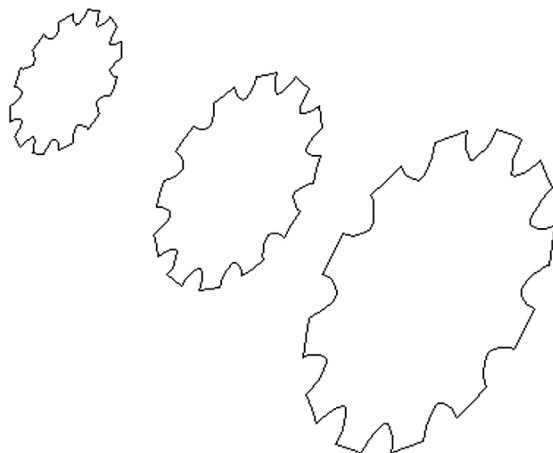

FIGURE 24.32
- Step 4.** Now, switch to the 3D SW Isometric view and separate the three profiles evenly in size order, as seen in Figure 24.32. Be careful, you may have to 3Drotate all the profiles to get them to “stand upright.” Also, be sure to check the side profiles to make sure they are spaced evenly. Use Ortho, and when done, 3Dorbit around the profile to check that they are located just right.